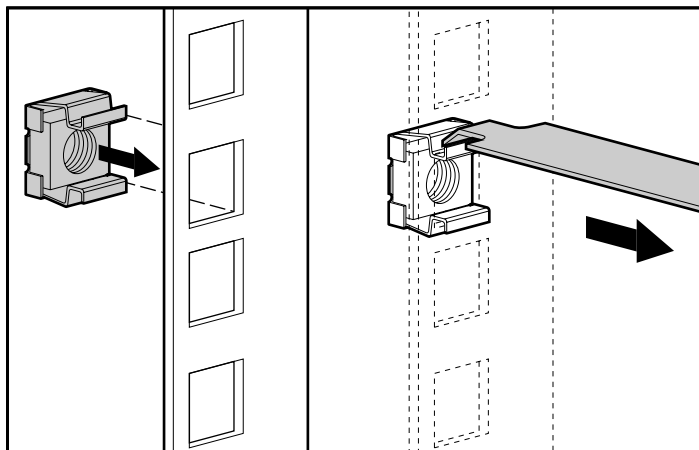

Figure 3-9. Inserting cage nuts
1. Position the cage nut as shown in Figure 3-9, on the inside of the rail.